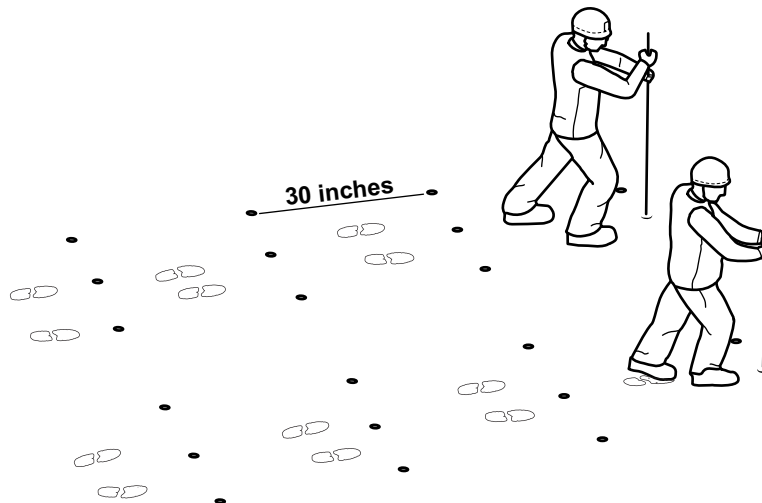

Figure 6-15. Coarse Probe.
- At the command STEP, each person takes a 30-inch step and then repeats the process (see Figure 6-15).